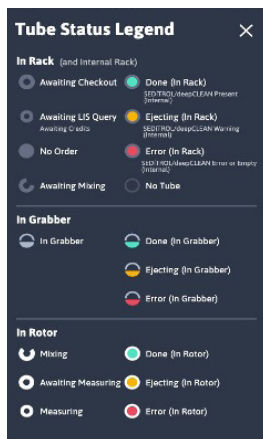

Figure 16
- Sample Legend:** Color legend for onboard sample status (Figure 16).
- Sample Status:** Each circle represents a sample position. Touching any of the circles will display information about the sample in that specific position. The circles are color coded to show sample status, and the Sample Legend (Figure 16) is viewable by tapping the question mark icon (2) at the top right corner of the Home Screen.